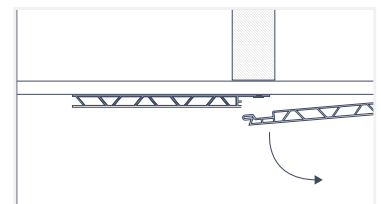

Fig. 33
5. Now, tilt the next panel out of the way and remove the screws from your panel (Fig. 33).